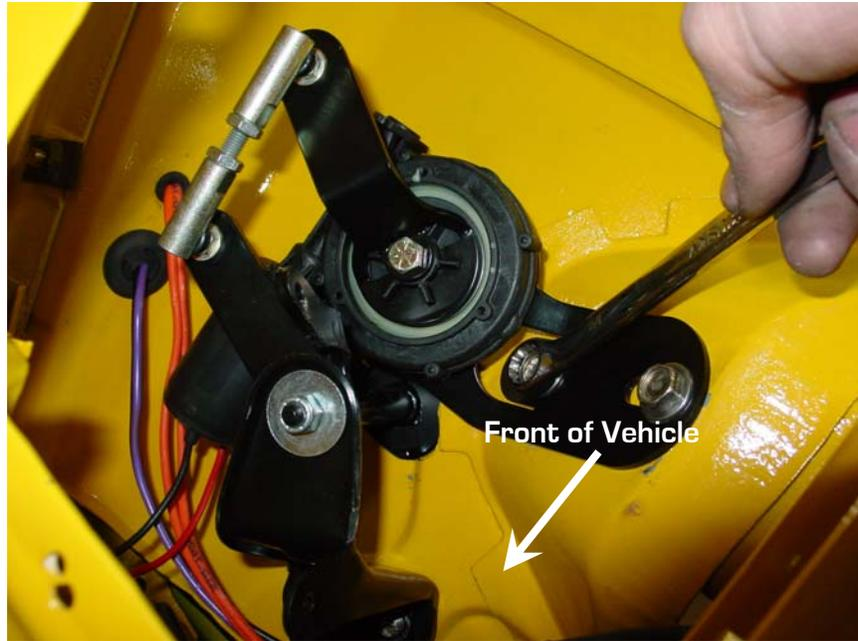

Figure 8
3. Remove these two bolts and position actuator and bracket. The motor should point forward and pitman arm should be on the bottom side of the bracket. The holes are slotted so that the actuator assembly can be aligned with the bellcrank of the RS headlight assembly. Reinstall the two bolts to attach the actuator to the vehicle as shown in Figure 8.